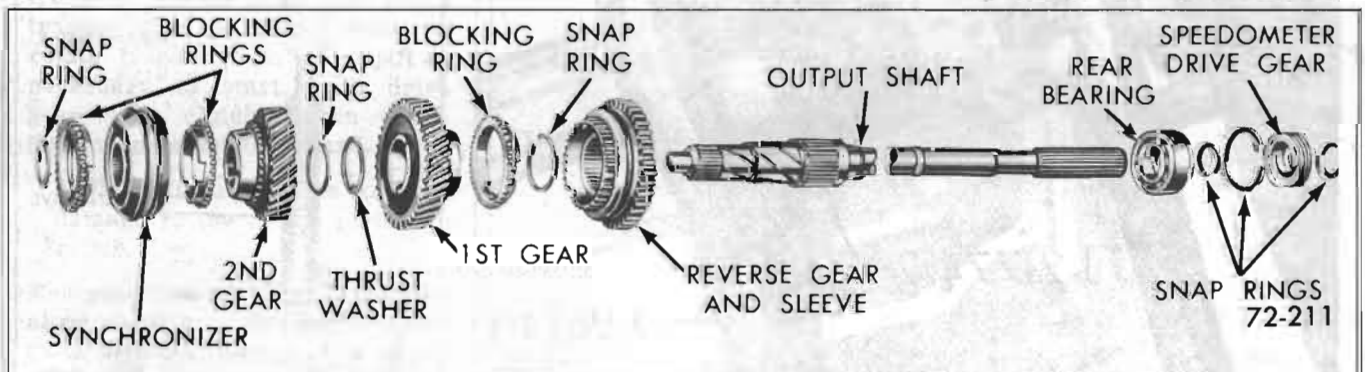

Figure 72-211—Exploded View of Mainshaft
72-5 DISASSEMBLY OF MAINSHAFT (See Figure 72-211)
7. Slide the first-reverse gear and sleeve assembly onto mainshaft with teeth of gear facing toward rear of shaft secure with snap ring. See Figure 72-211.
8. Coat tapered machine surface on first speed gear with grease. Place blocking ring on greased surface. See Figure 72-211.
9. Slide first speed gear onto mainshaft with blocking ring toward rear of shaft. Rotate gear as necessary to engage three notches in blocking ring with synchronizer inserts. See Figure 72-211.
13. Slide second speed gear with blocking ring and second-third speed gear synchronizer onto mainshaft. Tapered machine surface of second speed gear must be toward the front of shaft. See Figure 72-211.